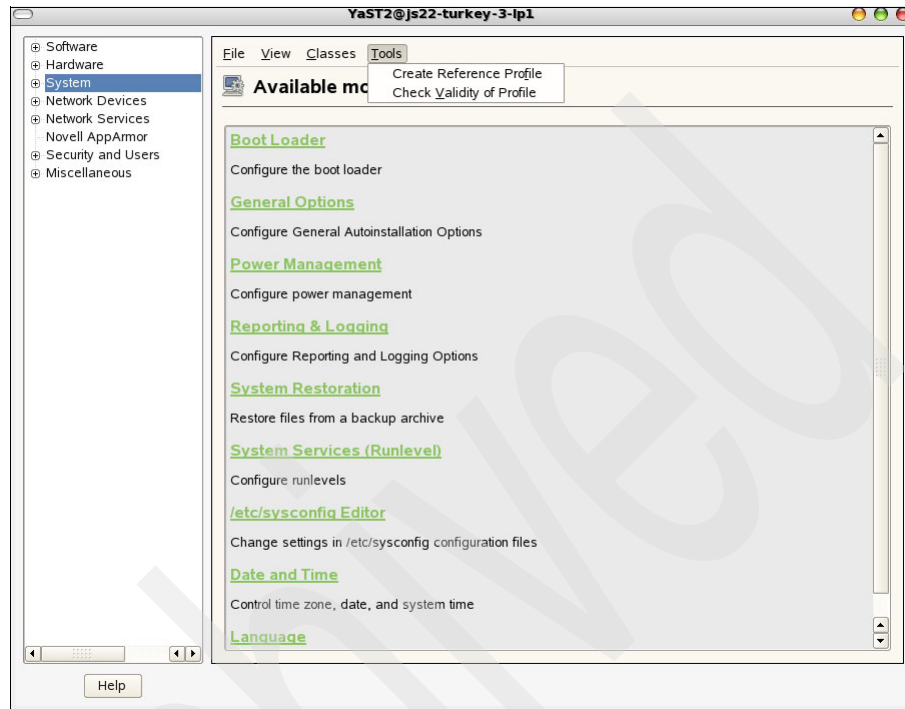

Figure B-5 Create a reference profile
2. Clone the configuration of the installation server by selecting **Tools** → **Create Reference Profile**, as shown in Figure B-5.